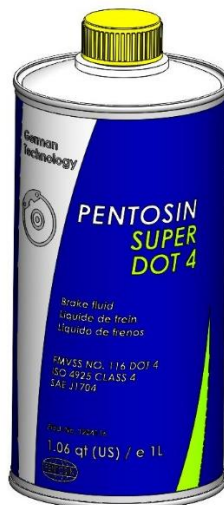

Figure 8 – Pentosin Super DOT 4
11. If the master cylinder has been removed or replaced, make sure it is properly bench bled and then installed on the vehicle. Then the remaining brake system can be bled to remove all of the air from the system. **REMEMBER:** Master Power Brakes requires the use of either DOT 3 or DOT 4 brake fluid. We Recommend the use of Pentosin Super Dot 4 fluid as seen below in Figure 8 (**Available at Master Power Brakes P/N: ACJ1703**).